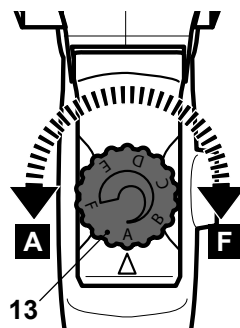

Fig. 9
- Limit the maximum speed using the speed dial (13). The variable speed device enables you to select the best speed for a particular application (Fig. 9).
- > Turn the speed dial (13) towards "F" to increase the maximum speed.
- > Turn the speed dial (13) towards "A" to decrease the maximum speed.